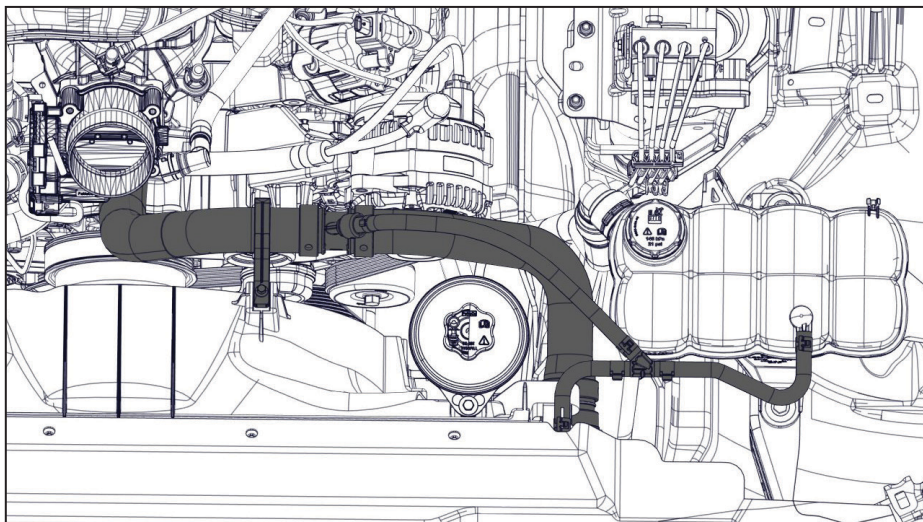

Figure 3 — Shift coolant hose assembly
- ☐ Disconnect the upper hose assembly from the radiator and secure it out of the way toward the rear of the engine compartment (Figure 3).